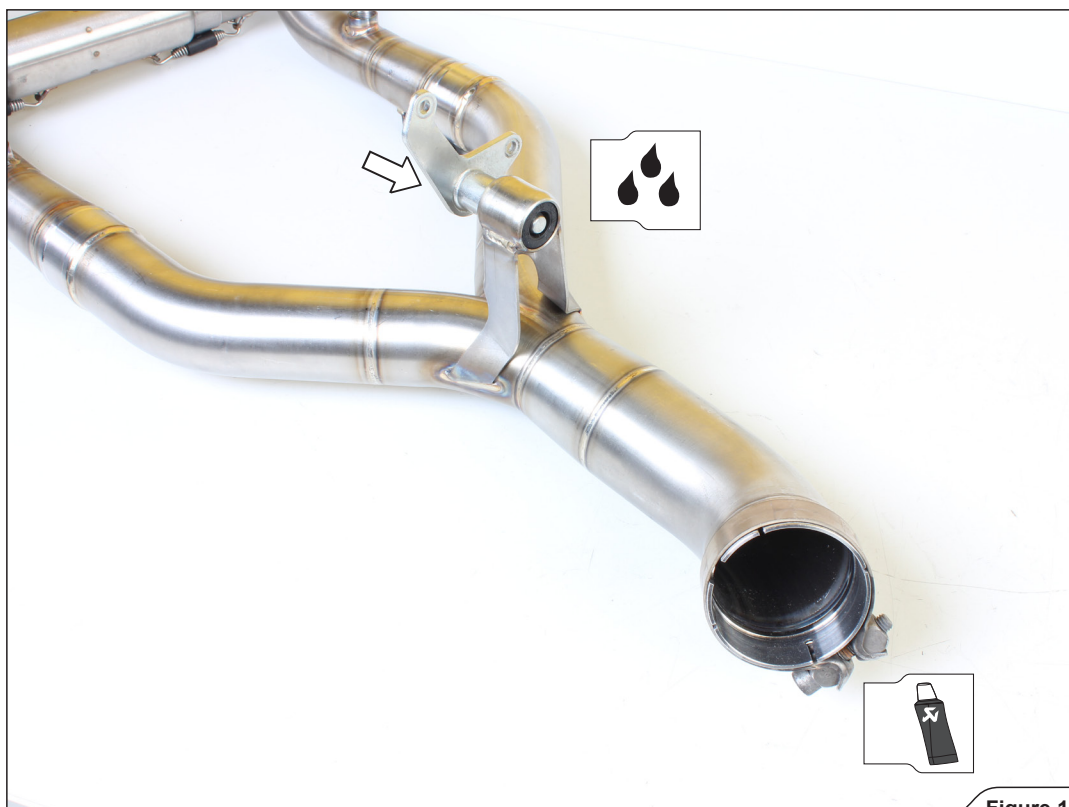

Figure 10
4. Install the stock header's bracket and clamp, as shown (Figure 10).